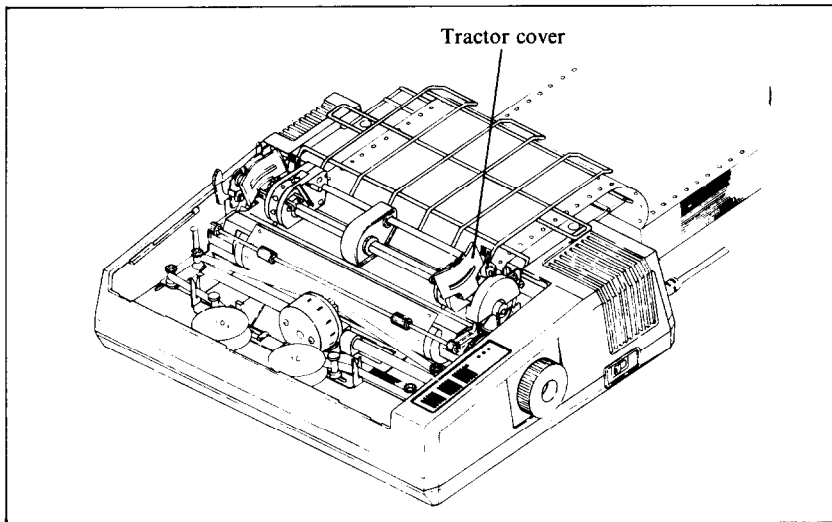

Figure 2-6. Open the tractor covers to expose the sprocket teeth.
5. Open the tractor covers, atop the right and left sprocket units, as shown in Figure 2-6.